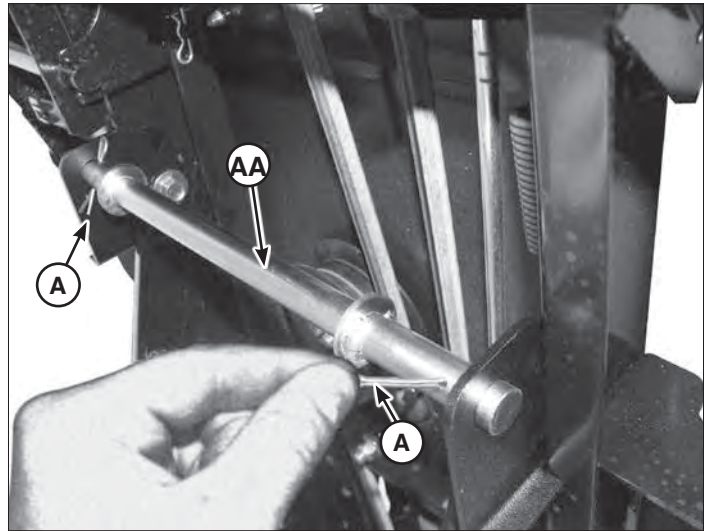

Figure 3
3. Install the rear support rod (AA, Figure 3) into the right and left rear hitch support holes. Secure with cotter pins (A). Make sure that the cotter pins are on the inside of the hitch supports.